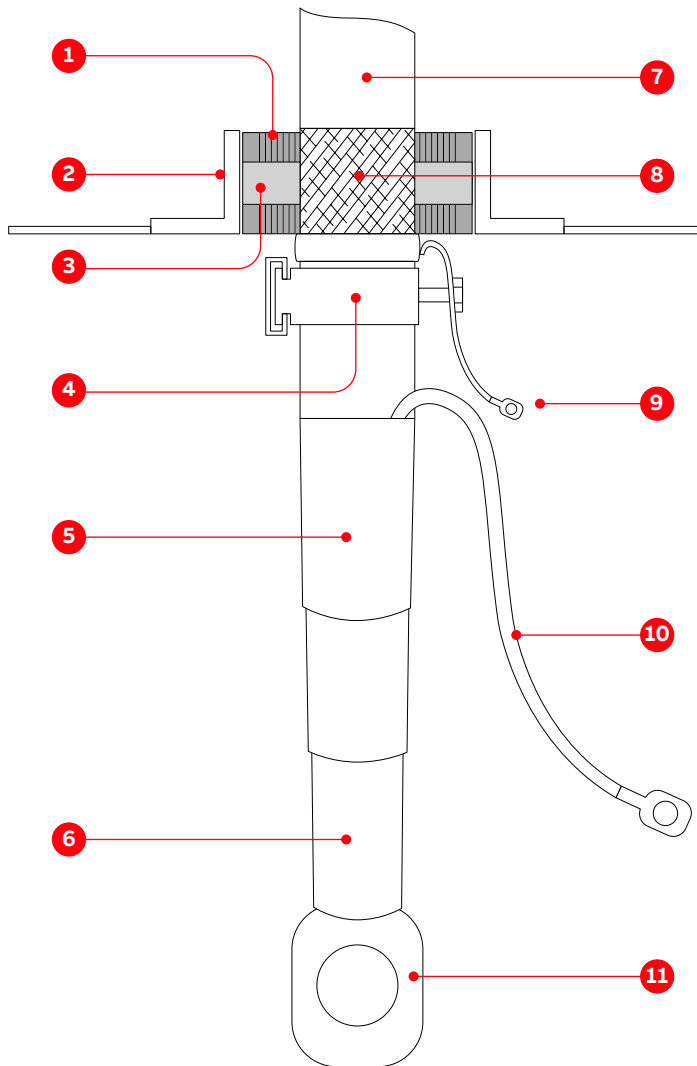

Figure 7-14: Preparing power cables for sealing modules
- Prepare cables with an outer cable screen or shield for EMC bonding with the metal enclosure of the cabinet as illustrated in Fig. 7-14.